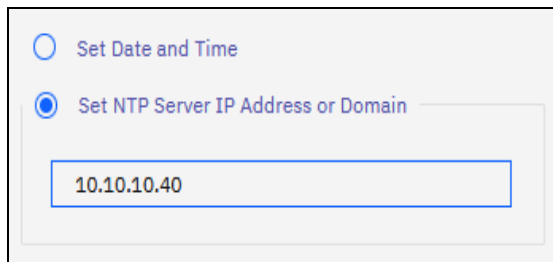

Figure 4-100 Set NTP Server IP Address window
- If you are using an NTP server, select **Set NTP Server IP Address or Domain**, and then enter the IP address of the NTP server, as shown in Figure 4-100.